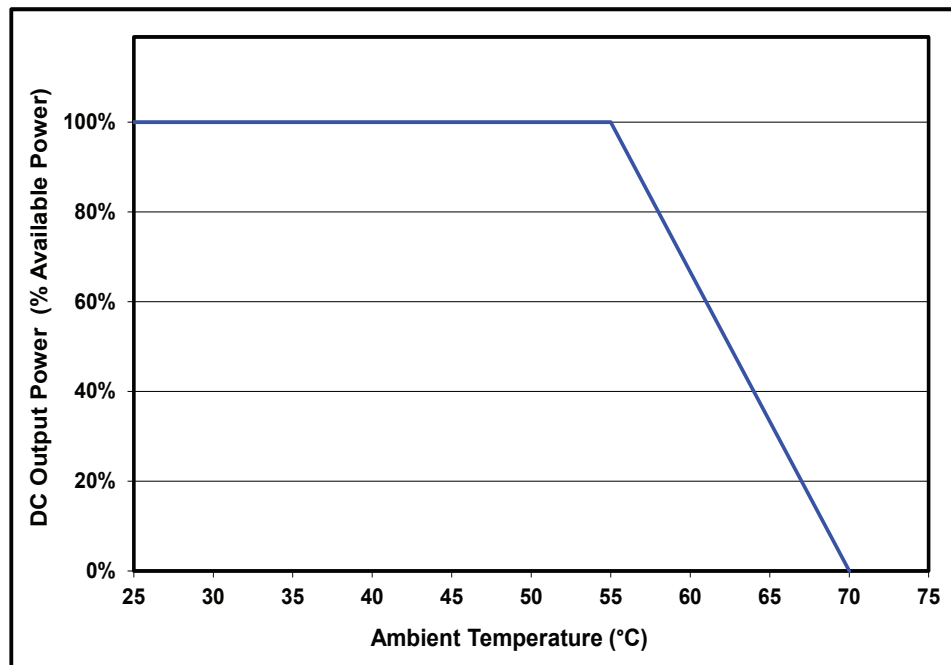

Figure 9: Thermal derating. Output Power vs Ambient temperature
4. Determine the derated power from the thermal derating curve (Figure 9). Note that the available power from step 3 will not need to be derated further if the temperature is below 55°C.